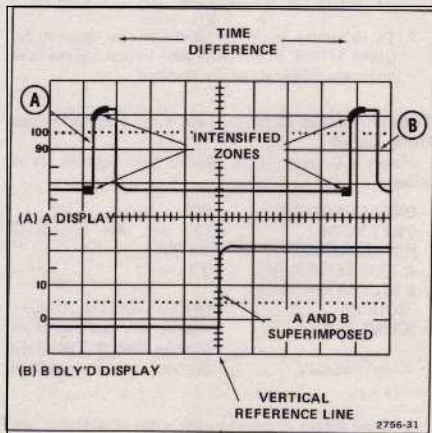

Figure 32. Time difference between repetitive pulses.
1. Position the two traces approximately as shown in Figure 32.
2. Using the DELAY TIME POSITION control, move the reference point to the first pulse (Figure 32, Point A).
4. Using the Δ TIME control and observing movement of the B Sweep waveform, move the time-measurement point to the second pulse (Figure 32, Point B).